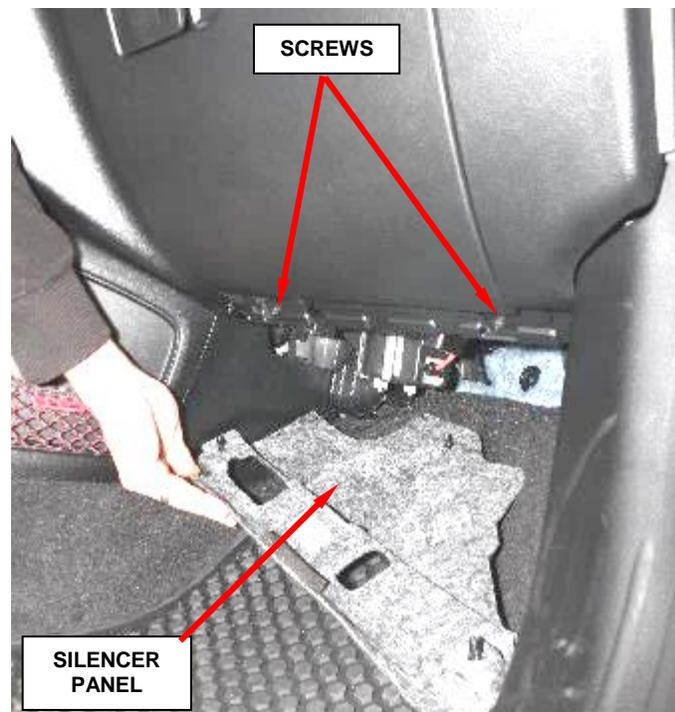

Figure 1 - Silencer Panel
3. Lower the silencer panel, and remove the screws at the bottom of the glove box (Figure 1).